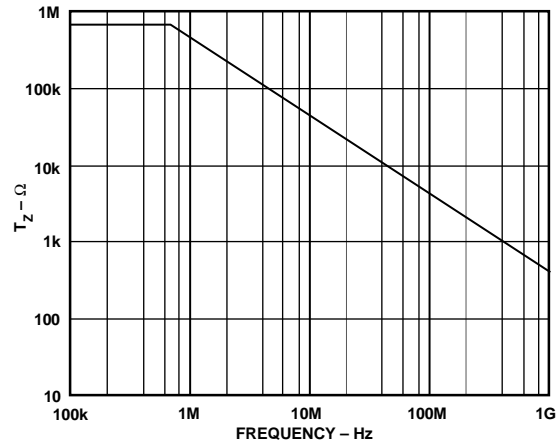

Figure 41. Transimpedance vs. Frequency
Recognizing that $G \times R_{IN} \ll R_1$ for low gains, it can be seen to the first order that bandwidth for this amplifier is independent of gain (G). This simple analysis in conjunction with Figure 41 in fact can predict the behavior of the AD8001 over a wide range of conditions.